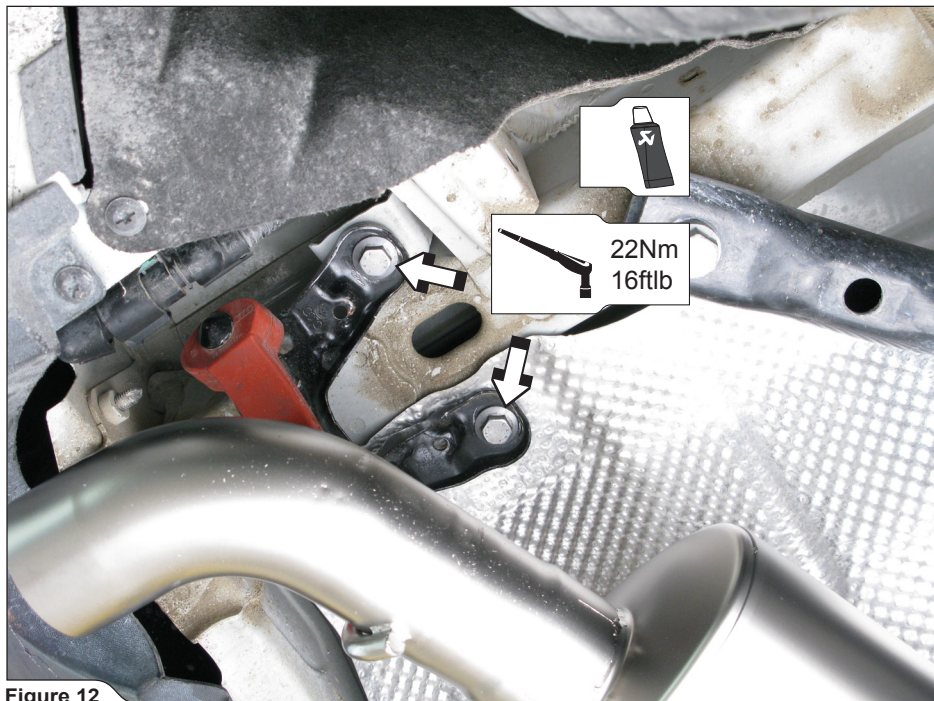

Figure 12
5. For Slip-On and optional Link-Pipe: tighten the right side stock rubber bracket onto the vehicle (Figure 12).